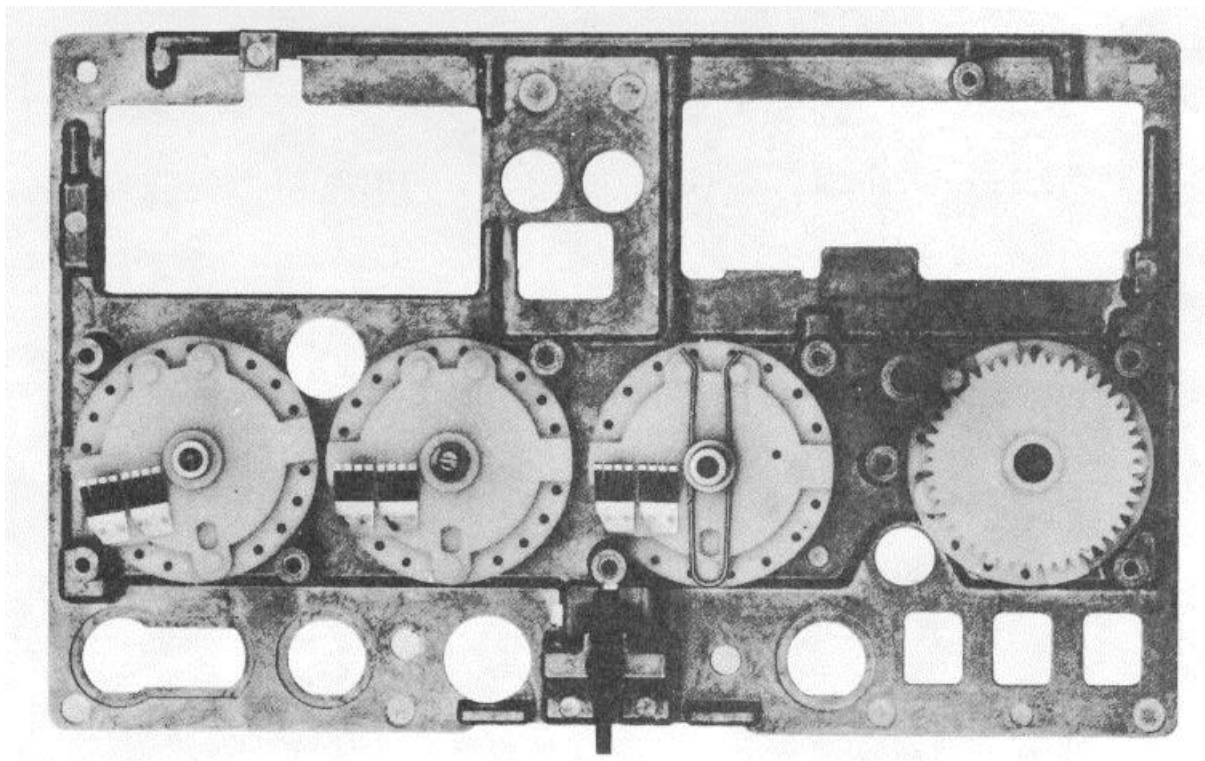
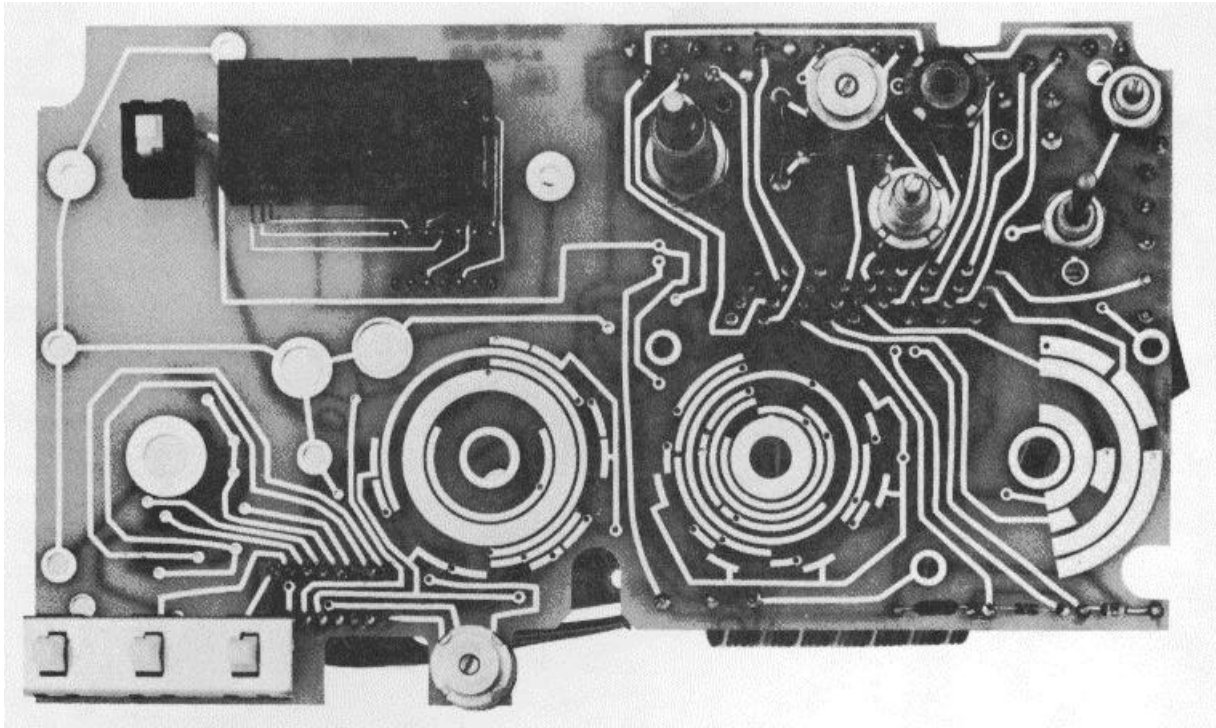

Figure 8-51. Proper Positioning of Rotors on Front Switch Diecast
Figure 8-52. Front View of Switchboard Assembly A2A1
- d. Lightly grease long side of SWEEP TRIGGER Shaft (28) and insert SWEEP TRIGGER rotor assembly into left-most bushing in Front Switch Diecast (1). Position rotor so that Ball Bearing (10) aligns with stop boss on left side of Front Switch Diecast (see Figure 8-51).
- f. Lightly grease long side of SWEEP TIME/DIV Shaft (28) and insert SWEEP TIME/DIV rotor assembly into next bushing in Front Switch Diecast (1) (see Figure 8-51).
- h. Lightly grease long side of Frequency Span Shaft (9) and insert FREQ SPAN/DIV rotor assembly (9-16) into next bushing in Front Switch Diecast (1). Position FREQ SPAN/DIV rotor assembly so that stop boss on Front Switch Diecast does not fall within small span between Roll Pins (12), as shown in Figure 8-51.
**Correct side of front Anticrush Drive Hub (7) must be oriented towards Front Switch Diecast (1) for proper operation of Front Switch Assembly.**
- k. Set Attenuator Drive Rotor (8) over Anticrush Drive Hub (7) with Attenuator Drive Rotor gear facing up. Long pin on Attenuator Drive Rotor should protrude through curved slot in diecast.
- l. Lightly grease gear end of Attenuator Shaft Assembly (17) and insert into Front Switch Diecast (1) as shown in Figure 8-51. Place metal Washer (18) on shaft.
- m. Clean contact fingers on all rotors using lint-free cloth and isopropyl alcohol/distilled water mixture. All rotors should be in proper position as shown in Figure 8-51.
- c. Use a 1/4-inch nut driver to tighten Hex Nuts (22) and Screws (19) fastening DPM Mounting Brackets (20, 21) to Front Switch Board Assembly.
- d. Use a 3/8-inch open-end wrench to tighten Hex Nut (36) and Lockwasher (35) attaching FREQUENCY ZERO Potentiometer (37) to Front Switch Board Assembly. Use a no. 2 spline (Bristol) wrench to install FREQUENCY ZERO Knob (34).
- e. Use a 3/8-inch open-end wrench to tighten Hex Nut (36) and Lockwasher (35) attaching VIDEO FILTER Potentiometer (39) and metal Washer (38) to Front Switch Board Assembly.
- f. Use a 1/2-inch open-end wrench to tighten inner Hex Nut (32) and Washer (33) attaching Dual Tune Pot assembly (25, 32, 33, 40-51, 77) to Front Switch Board Assembly. Note that Roll Pin (12) aligns with hole in switch board to locate Dual Pot Bracket (45); Washer (33) between bracket and switch board is critical to proper switch operation. See Figure 8-52 for front view of assembled switch board.
- g. Check Dual Tune Pot assembly for smooth operation and proper gear meshing; disassemble and lightly grease shafts if necessary. Install second Hex Nut (32) mid-way onto Coarse Tune Shaft Bushing (42).
- h. Set Front Switch Board Assembly into place on partially-assembled Front Switch Assembly and use a Stud (59) on right-most side of switch assembly to loosely fasten switch board to Front Switch Diecast (1).
- i. With one Stud (59) in place but not tight, twist left side of Front Switch Board Assembly up approximately 1/8-inch to fasten switch board under Front Switch Diecast support arm (upper left corner) and align switch shafts.